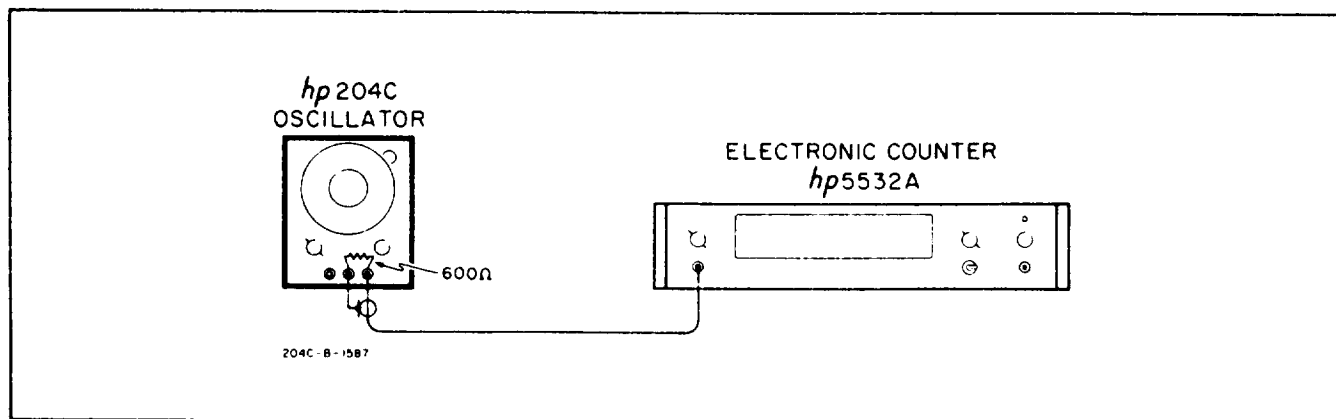

Figure 5-1. Dial Accuracy Check
- a. Connect the Model 204C and the Frequency Counter as shown in Figure 5-1. Set the counter to measure frequency and check the Model 204C at the frequencies listed in Table 5-2 for the tolerances indicated.